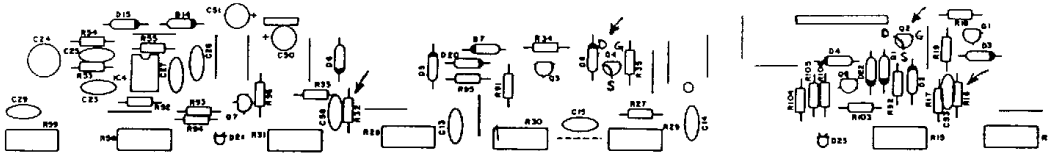

FIGURE 2
2. INSTALL NEW PARTS. Refer to Figure 2 and add the following parts: